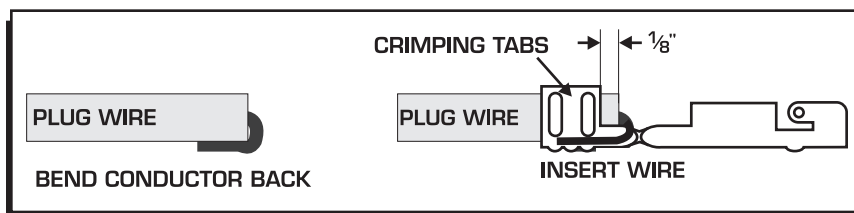

Figure 6 Positioning the Wire in the Terminal.
**Straight Terminals:** Fold the conductor back along the wire insulation. Slide the wire into the terminal with the conductor positioned so it is in contact with the bottom of the terminal (Figure 6). Push the wire through until the sleeve protrudes about 1/8" beyond the crimp tabs.